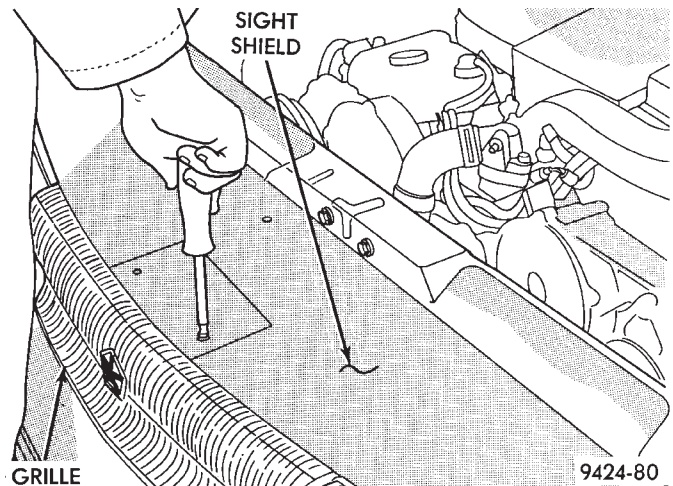

Fig. 35 Sight Shield Removal
- (1) Disconnect negative battery cable.
- (2) Remove sight shield (Fig. 35).
- (3) Remove right and left headlamp modules. Refer to Group 23 Body for removal procedure.
- (4) Drain engine cooling system. Refer to Group 7 Engine Cooling for proper procedure.
- (5) Remove refrigerant from A/C system using a recovery machine.
- (6) Disconnect and cap A/C lines at condenser.